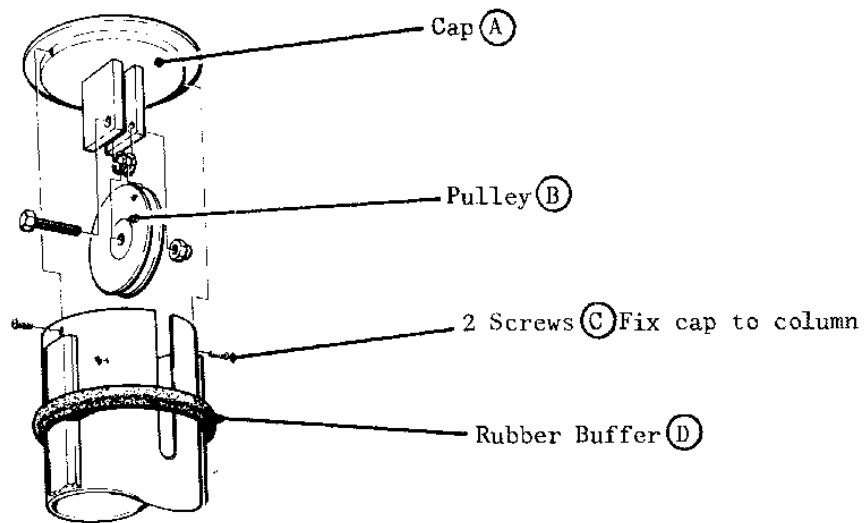

Fig 60 Pulley Assembly.
3. The pulley assembly must now be detached from the column (see fig 60).
With the cable over the pulley (B) (Fig 60) refit the pulley assembly to the column. Replace and fully tighten the screws (C). Slide the rubber buffer (D) back up to the cap (A).